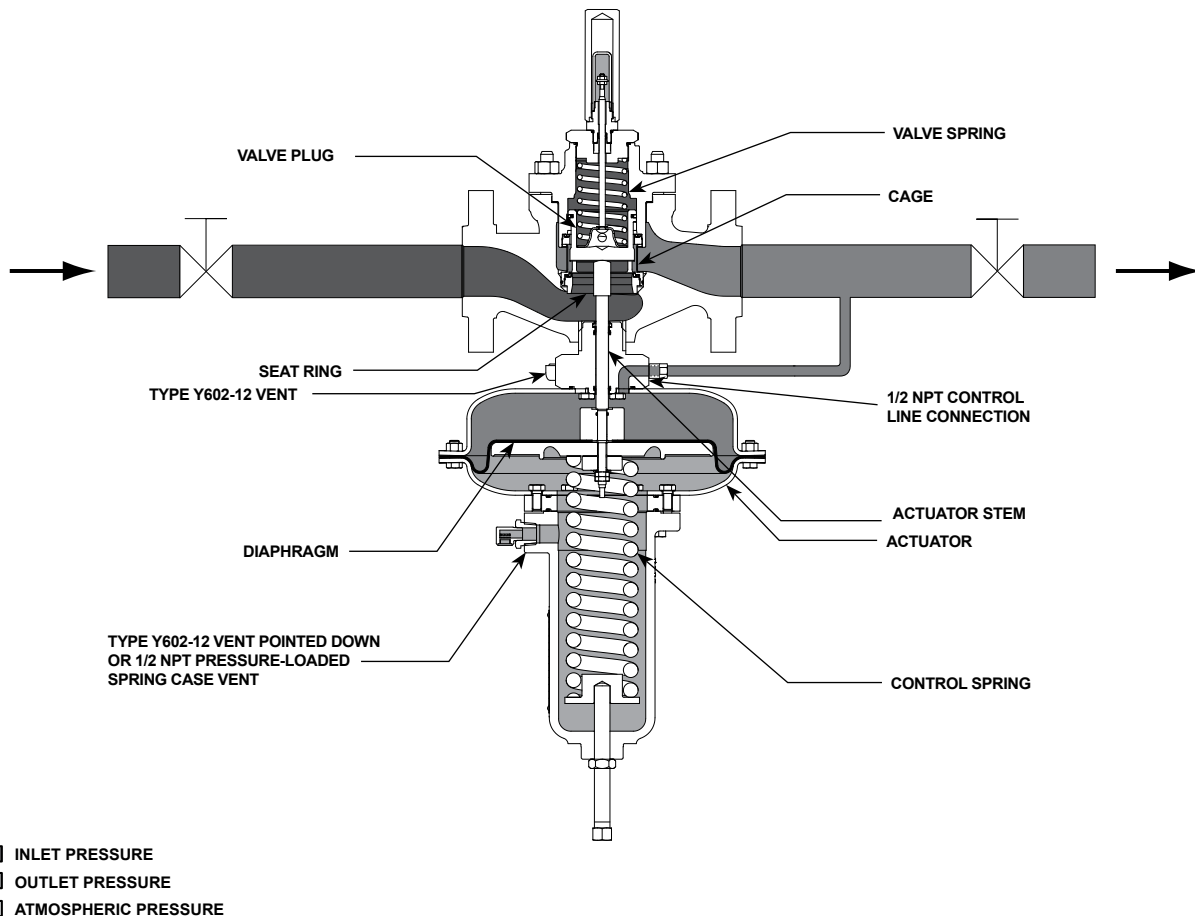
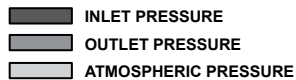
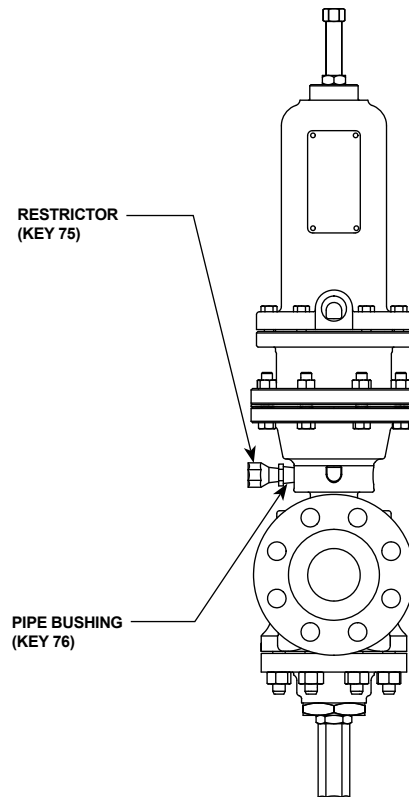

Figure 2. Type MR105 with Low-Pressure Actuator Operational Schematic
Figure 3. Type MR105 with High-Pressure Actuator Operational Schematic
Figure 4. Type MR105 with High-Pressure Actuator and Restrictor Option
The Type MR105 is a direct-operated pressure reducing regulator. Downstream pressure is registered externally through a 1/2 NPT control line tapped in the bonnet (for low-pressure actuator, see Figure 2) or in the lower diaphragm casing (for high-pressure actuator, see Figure 3). When downstream demand decreases, the pressure under the actuator diaphragm increases. This pressure overcomes the regulator setting (which is set by the regulator control spring). Through the action of the actuator stem and valve spring, the valve plug moves closer to the seat ring and reduces the flow. When demand downstream increases, pressure under the actuator diaphragm decreases. Spring force pushes the actuator stem downward, the valve plug moves away from the seat ring and the flow increases
To avoid premature wear of internal parts, it is recommended that the actuator be oriented up or down in liquid service as shown in Figures 2 and 3.
Restrictor is intended for use on liquid applications with high-pressure actuator. Refer to Figure 4.
The Type MR105 regulator requires a downstream control line for proper pressure control. A 1/2 NPT control line connection is located on the bonnet (for low-pressure actuator, see Figure 2) or on the lower diaphragm casing (for high-pressure actuator, see Figure 3). For high-pressure actuator with Quick Opening Cage (liquid service), pipe bushing (key 76) and restrictor (key 75) should be installed in the 1/2 NPT control line connection (see Figure 4).